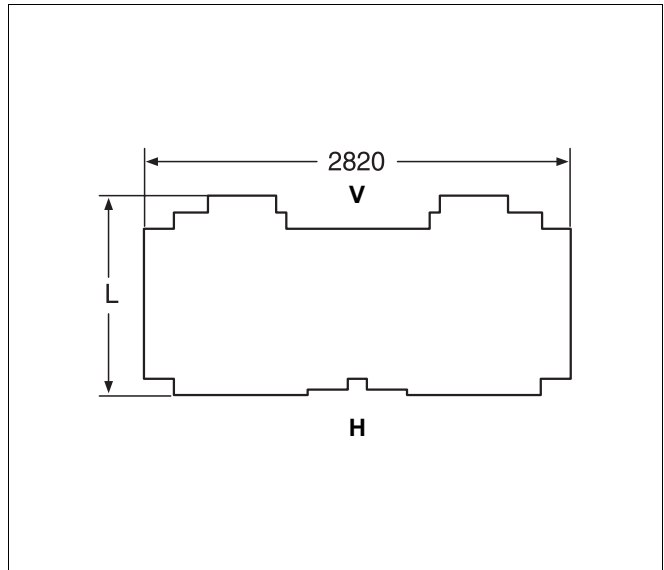

Fig. 32 Thermal insulation
- The thermal insulation supplied corresponds to the respective boiler size (Table 1). Arrange the thermal insulation according to the Fig. 32 illustration shown on the boiler block.